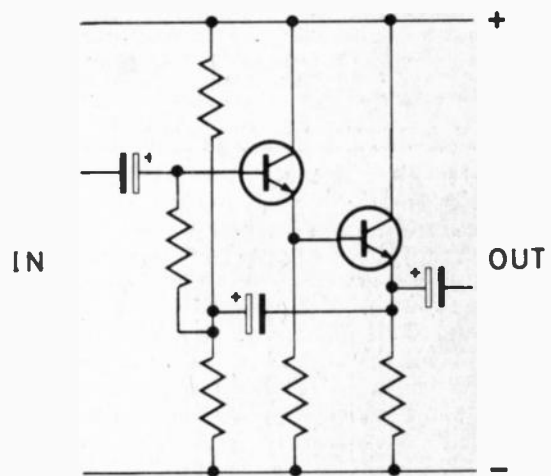

Fig. 5.2 A two-stage bootstrapped circuit with a very high input resistance of several megohms.
POSITIVE FEEDBACK is the process of taking some of the signal at the output of an amplifier and connecting it back, in phase, to the input. How much effect this has depends on how much of the signal is fed back. Small amounts of positive feedback (as we call this) can increase the gain of an amplifier and also increase the input impedance. A simple example of this use of positive feedback is the circuit of Fig. 5.1. This is an emitter-follower (see earlier parts) with a capacitor feeding signals back from the emitter to the base. Because the voltage gain of an emitter-follower is always less than unity this has no effect on the gain of the whole circuit, but it does make the input impedance for signals very much higher than that of the unaltered emitter follower. This use of positive feedback is called **bootstrapping**. The name comes from the (US) inventor of the circuit who remarked that "it looks a bit like pulling yourself up with your own bootstraps." A two-stage bootstrap circuit with a very high input resistance is shown in Fig. 5.2.